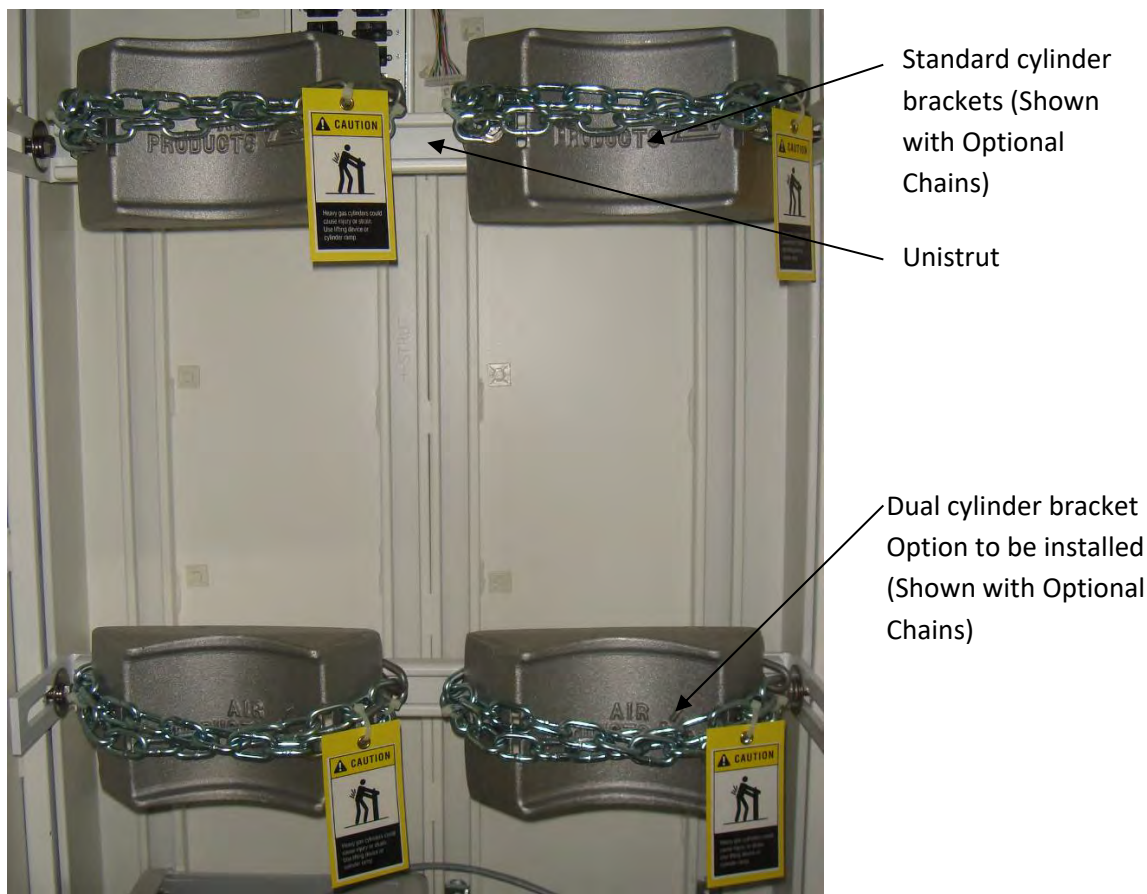

Figure 13.3.1 Overview of Installed Cylinder Brackets (with optional Dual Cylinder Brackets and Chains)
- iii. Qty(4) 5/16-18 UNC hex head bolts
- iv. Qty(2) 5/16-18 UNC hex nut
- v. Qty(2) Unistrut-Nuts with springs
- vi. Qty(4) 3/8 x 1-1/2 inch fender washers
- vii. Qty(4) 5/16 inch split washers
- ix. Qty(2) ½ inch socket wrenches or adjustable wrenches
3. Measure the horizontal position of the existing cylinder brackets. Measure from the end of the Unistrut to each of the cylinder bracket bolts. (See Figure 13.3.1 and 13.3.2)
5. Install the Unistrut nuts (Qty (2) for each cylinder bracket) into the new Unistrut piece where marked.